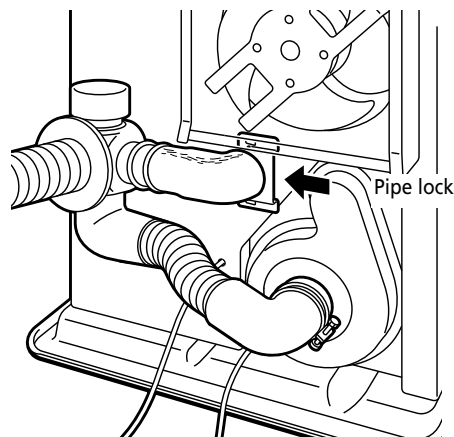

Fig. 12
6. Fasten the right-angled air hose to the inlet with the hose clip. Attach the right-angled exhaust bend to the exhaust pipe with the pipe holder (If the extension pipe is used, also attach the pipe holder to the connection of the right-angled exhaust pipe bend and extension pipe). Attach the right-angled exhaust bend to the outlet by sliding the pipe lock into the outlet clip (See Fig. 12).